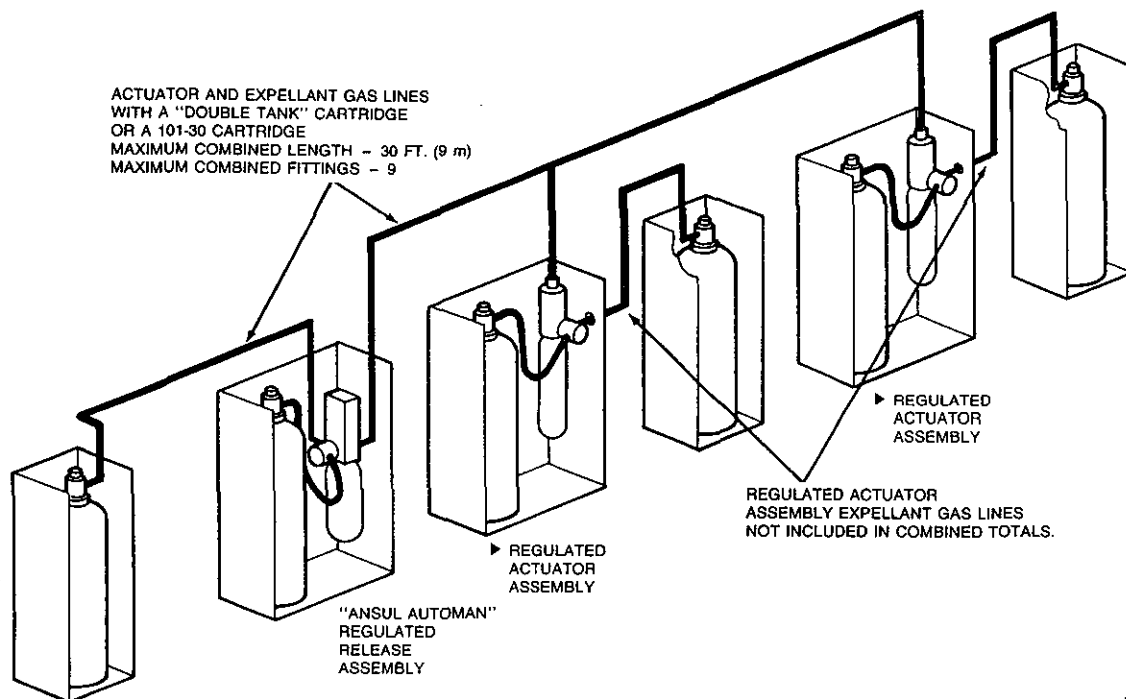

FIGURE 60
3. If an expellant gas line is connected to the regulated release assembly along with an actuation gas line, the total combined length of the actuation and expellant gas line **must not exceed 30 ft. (9 m)** when using a "double-tank" nitrogen cartridge (Part No. 73022) or a 101-30 carbon dioxide cartridge (Part No. 15851). See Figure 60.
3. If two tanks are connected to the regulated release assembly in a multiple-tank system arrangement, the total combined length of the actuation and expellant gas lines **must not exceed 30 ft. (9 m)** when using a "double-tank" nitrogen cartridge (Part No. 73022), an LT-A-101-30 nitrogen cartridge (Part No. 29187) or a 101-30 carbon dioxide cartridge (Part No. 15851). See Figure 60.